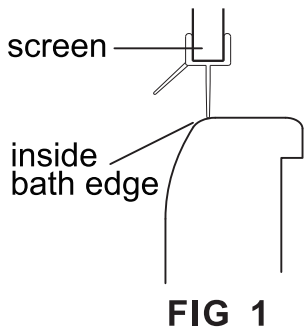

FIG 1
1. Position the wall profile so the seal on the moving panel sits on the inside edge of the bath. **Fig 1.**